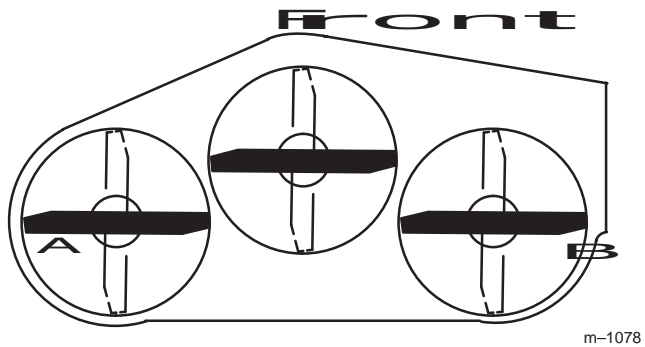
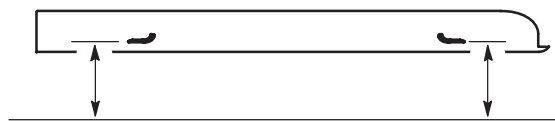

Figure 59
Figure 60
2. Position the blades side-to-side (Fig. 59). Measure at "A" and "B" locations (Fig. 59) from a level surface to the cutting edge of blade tips (Fig. 60).